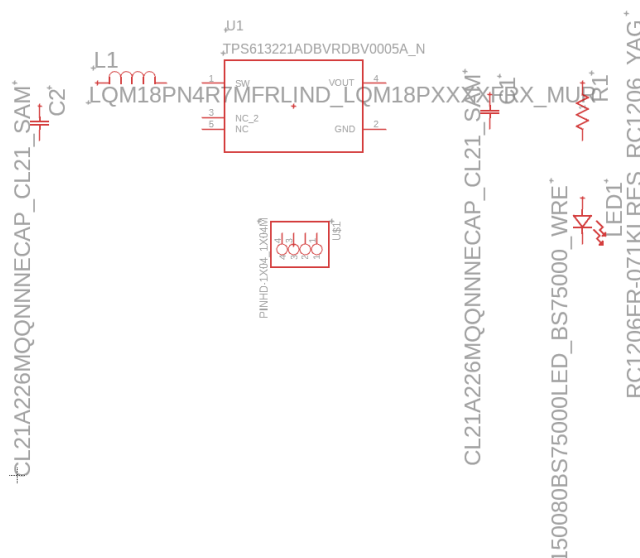

Figure 14: Parts in the schematic moved to the desired location.
3.14: Select the Value tool under Modify and modify the value of each part. Select a part so its value can be changed. A new menu will appear and select to change the part's value. The goal is to remove completely the long part name for each part except for the regulator. Replace each part's value with its actual value (for example 22 uF). The regulator value will be replaced with its part number of TPS61322 1 / 2 for the 3.3V and 5.0V regulators. Next, change to the rotate tool and rotate the part's value and name to the desired orientation. Use the move tool to move the value and name of each part to the desired location in the schematic by selecting the name tool under connect (Figure 14).